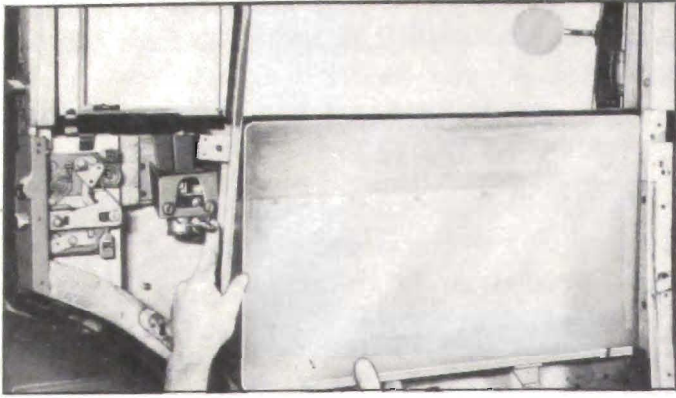

Figure 13-80—Removing Rear Door Window Glass—1948 Models
3. Disconnect lower end of division channel and swing it to permit removal of window glass. See figure 13-80.